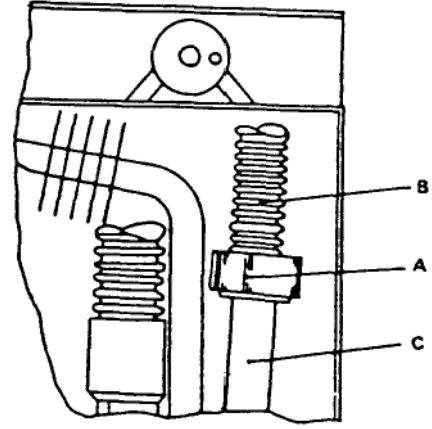

Fig.14
7. Unscrew union nut (A, Fig. 14) of flexible exhaust pipe (B, Fig. 14) using a pipe wrench, remove flexible pipe and gasket from gas heating-pipe (C, Fig.14).